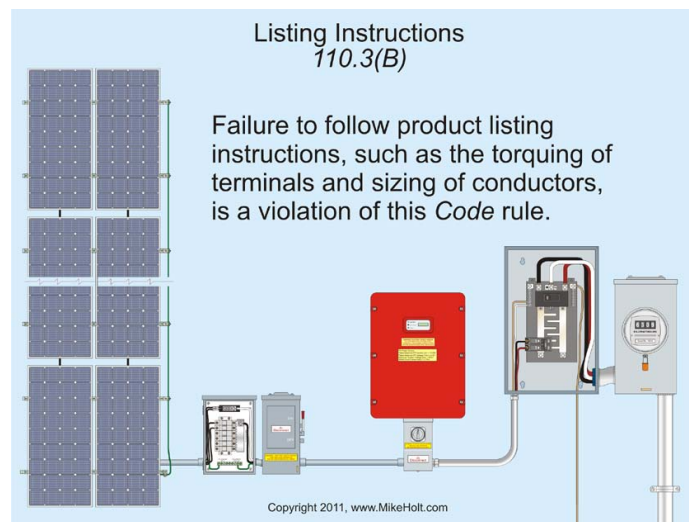

Figure 110-3
- Failure to follow product listing instructions, such as the torquing of terminals and the sizing of conductors, is a violation of this *Code* rule. **Figure 110-3**